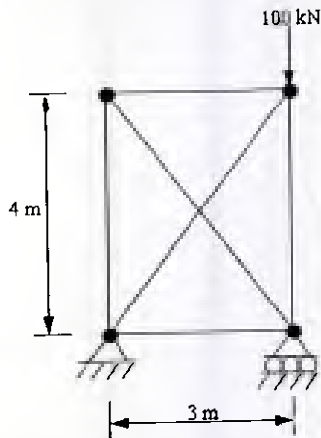

Figure 3
- Q. 2. Analyse the structure as shown in figure 3 using Direct Flexibility method and find the